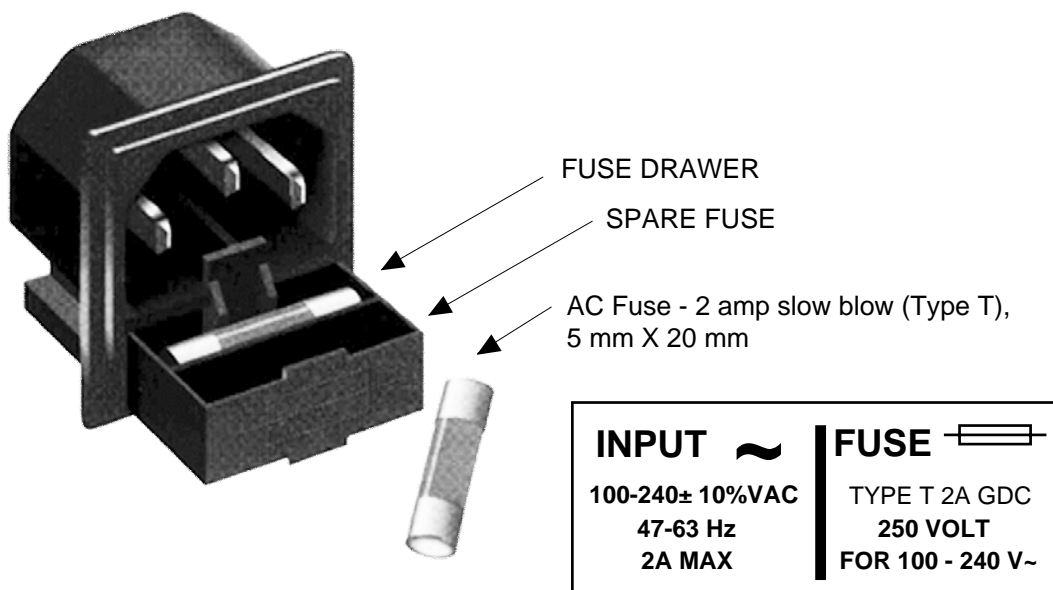

**FIGURE 2.2 2115-212-1600 Front Panel Controls and Indicators**
4. Be sure DS1 (green, DC Power) is on and DS2 (red, Alarm) is off (Figure 2.2).
6. If EXT is selected or AUTO is selected and there is a 10MHz, 3 dBm signal at J2, check that DS3 (yellow, Ext 10MHZ) is on (Figure 2.2).